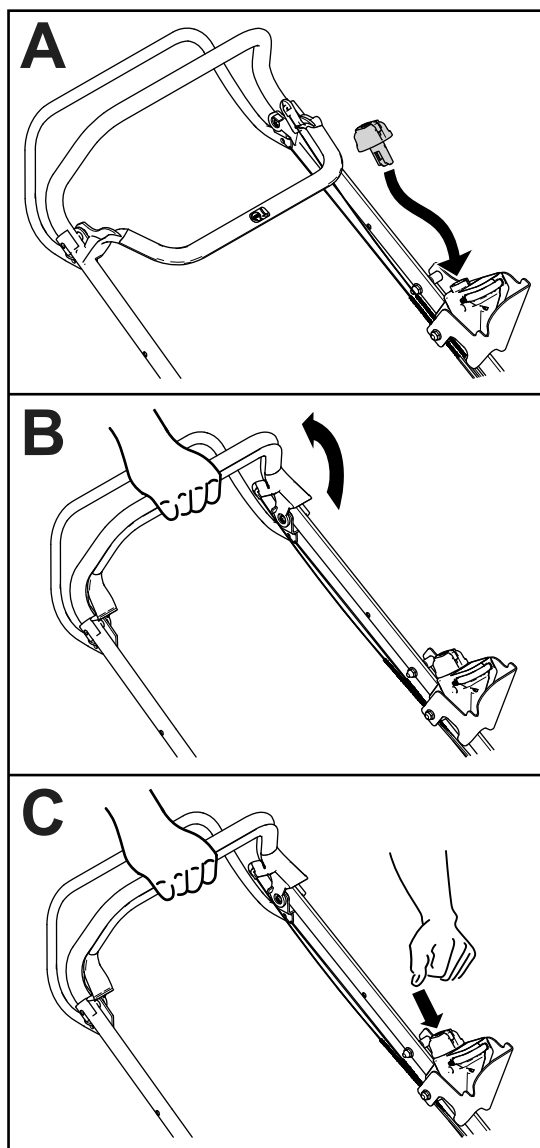

Figure 19
2. Insert the electric-start button refer to [Locating the Electric-Start Button \(page 15\)] into the electric-start switch (A of Figure 19).
3. Squeeze the blade-control bar and hold it to the handle (B of Figure 19).
4. Push the electric-start button until the machine starts and the blade starts spinning (C of Figure 19).